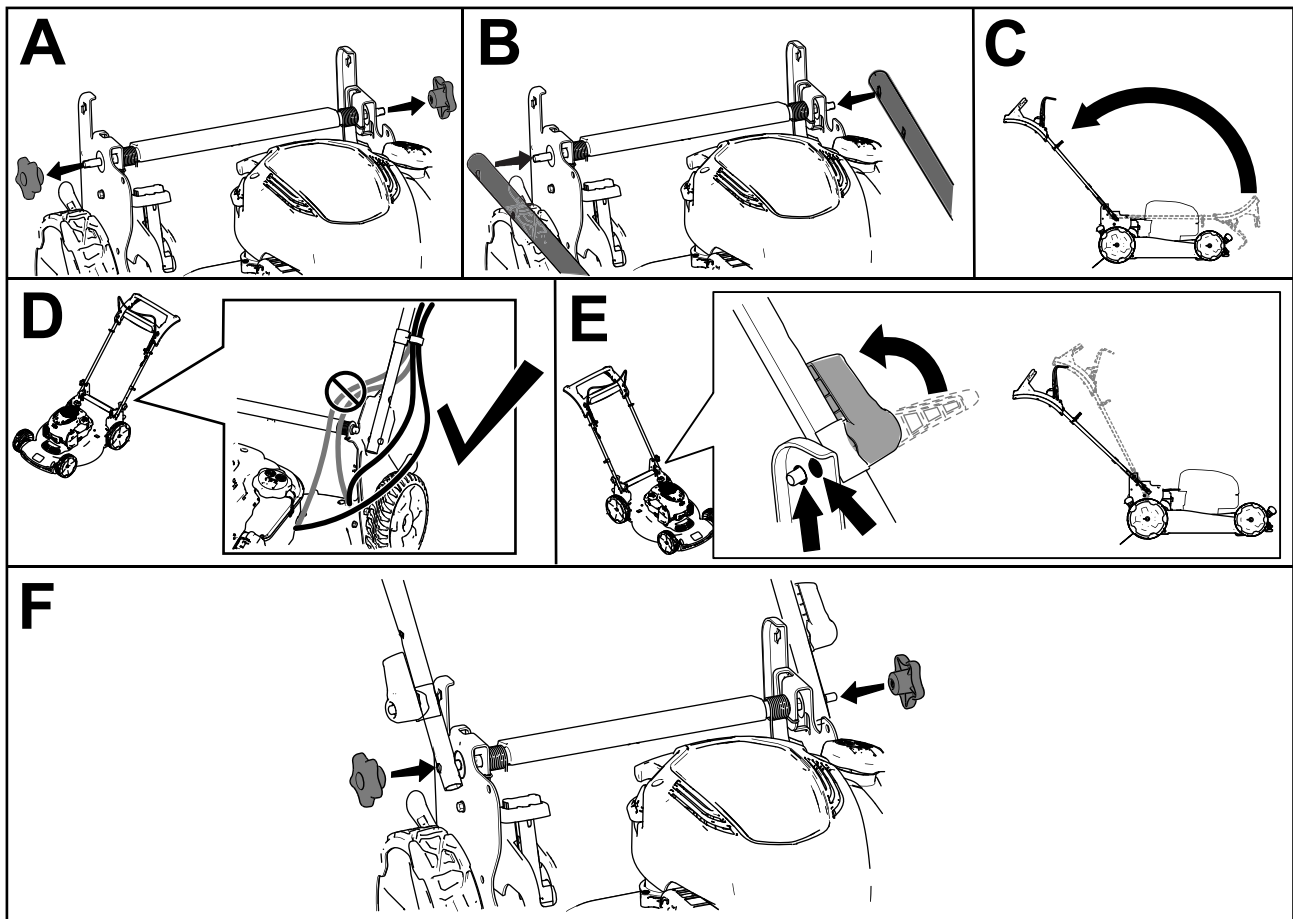

Figure 3
**Note:** Ensure that the cables are routed on the outside of the handle and are not pinched (D of Figure 3).